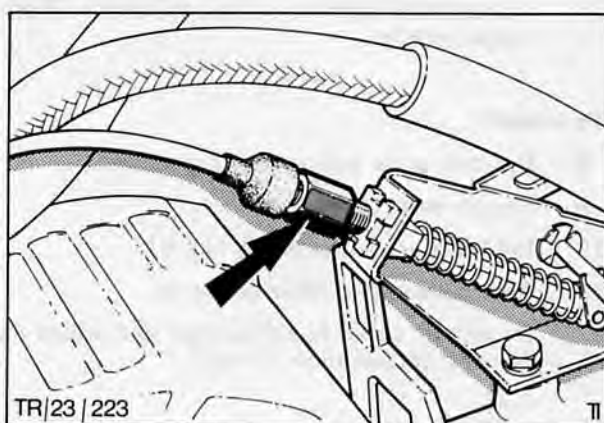

Fig. 88. Accelerator cable adjusting sleeve
13. Adjust cable as detailed in operation 23 811, Fig. 88.